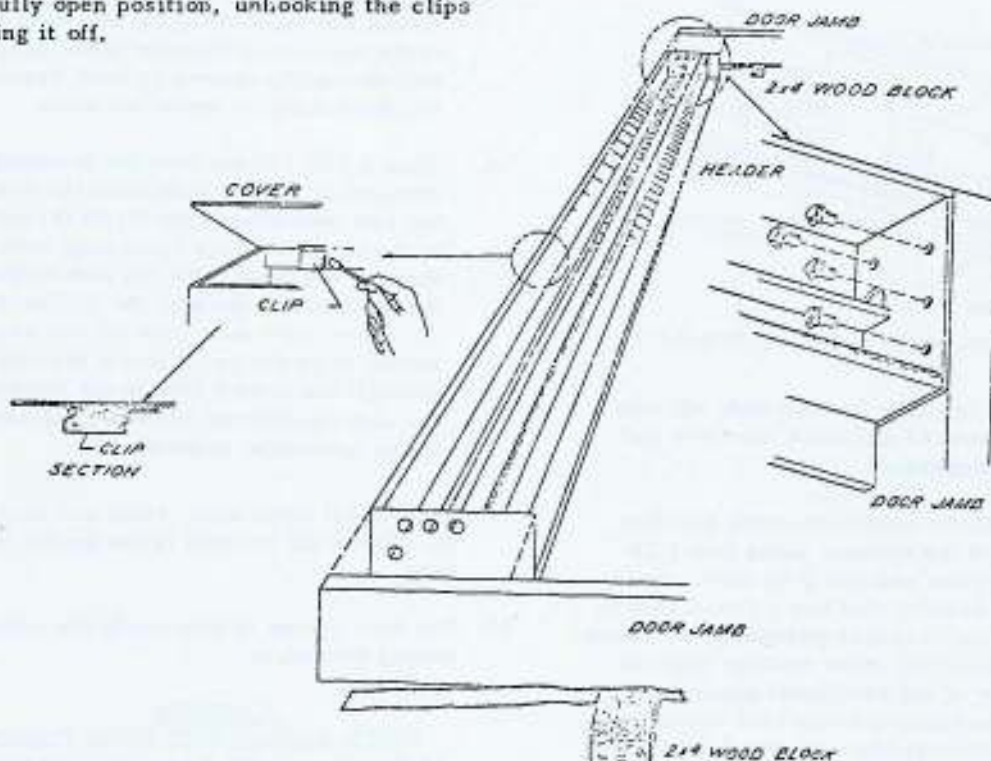

FIG. 3 Header assembly details.
1. Lay header on floor with open side up and placing a 2 x 4 wood block under each end, (see FIG. 3).
3. Lay both jambs on the floor in proper relationship to assemble with header as shown in FIG. 3.